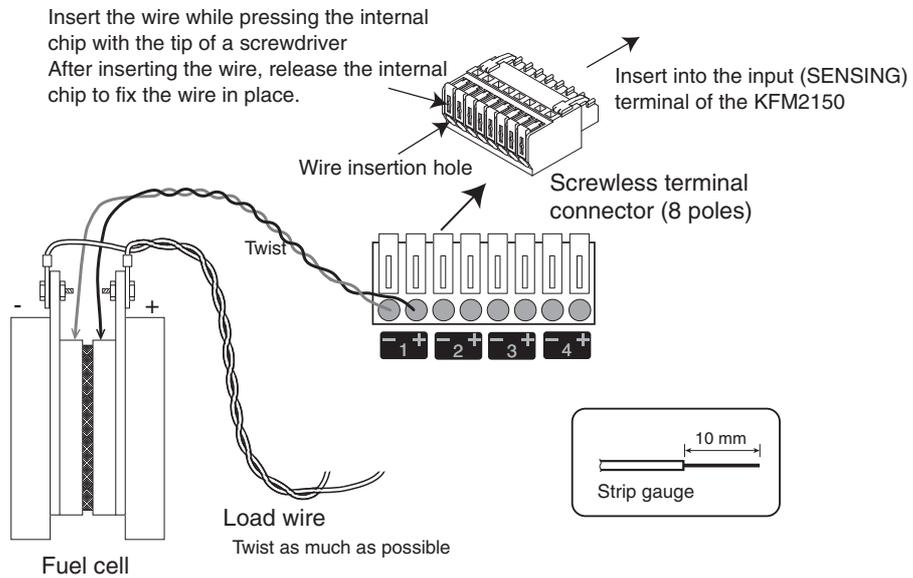

Fig. 2-12 Connection to the fuel cell
Use AWG24 wires. Remove 10 mm of the covering from the wire end. Using the strip gauge shown in Fig. 2-12 will ensure proper work.
- 2 Using a screwdriver, insert the wire into the screwless terminal connector (8 poles) provided as shown in Fig. 2-12.